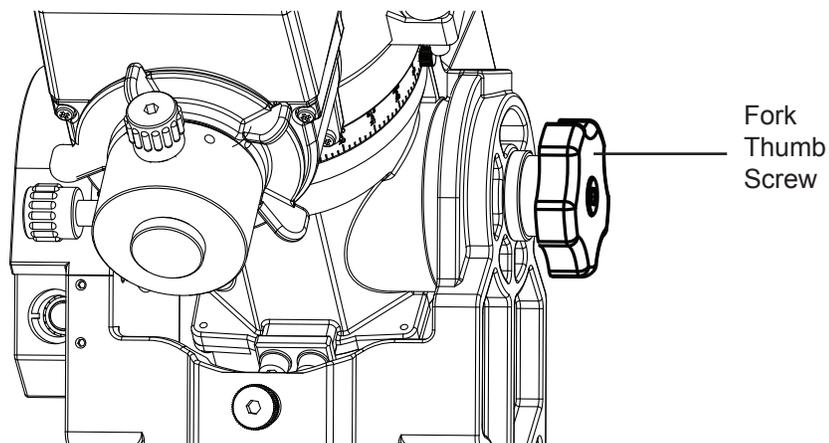

Fig. 2.3a
1. Loosen the fork thumb screw located on the sidewalls of the mount (Fig. 2.3a).